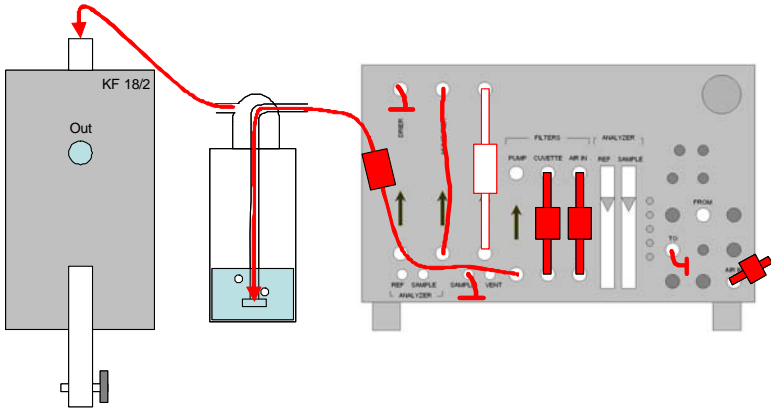

Fig. 60: Drawing with connection of humidifying bottle and cold-trap.
- While the pump is off, connect the lower connector of the filter PUMP to the inlet of the humidifying bottle. Use the 4 mm hose connector and the filter from the spare kit for this connection. Connect the outlet of the humidifying bottle to the inlet of the cold trap (see Fig. 60).